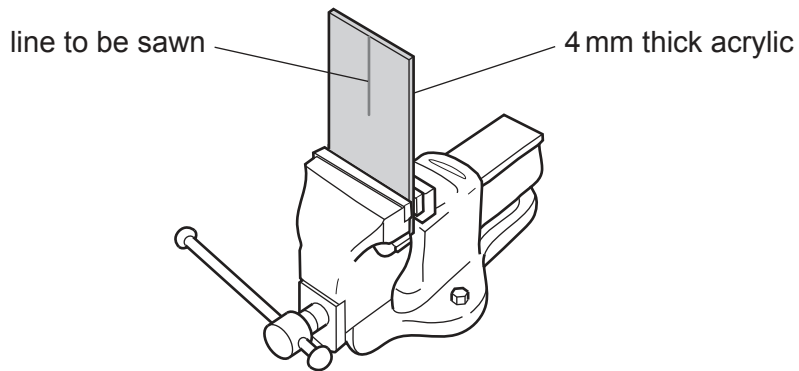

Fig. 9.1
- 9 Fig. 9.1 shows a workshop operation where there is a danger of damaging the material.